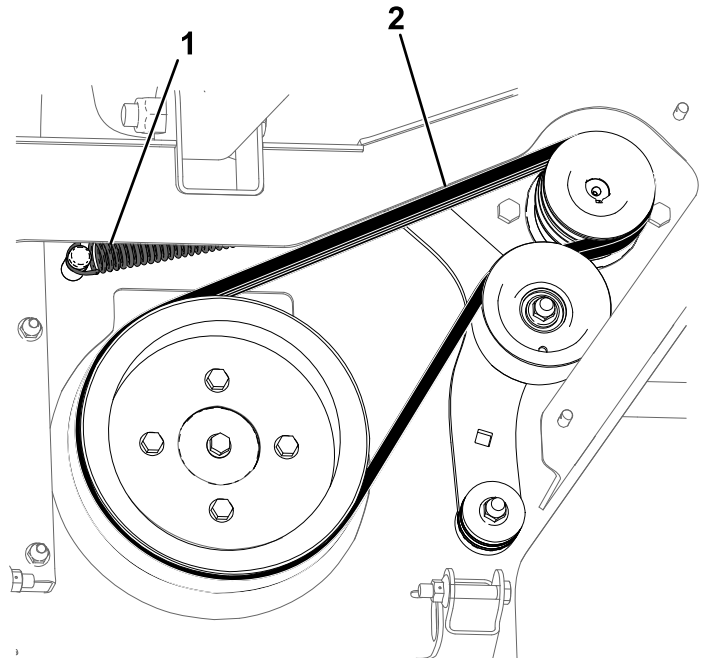

Figure 34
1. Hairpin cotter (4)
4. Remove the belt from the pulleys (Figure 34).
5. Wrap the new belt around the small pulley (Figure 34).
6. Rotate the large pulley by hand and wrap the belt around it as it rotates (Figure 34).